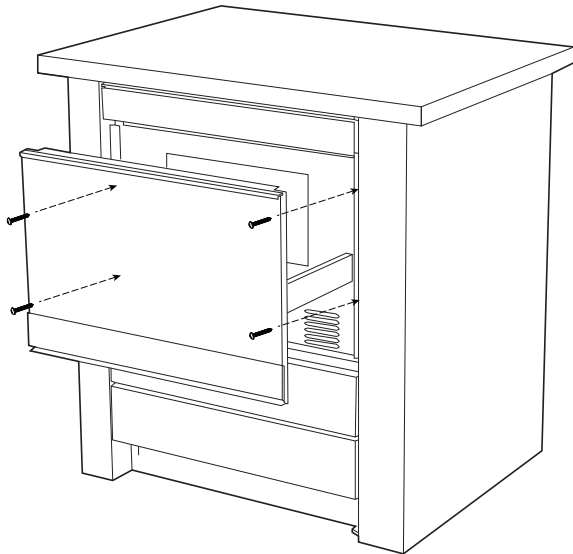

FIGURE 9A
8. Open the oven door and pre-drill each hole using a $\frac{1}{16}$ " (1.6 mm) drill bit. Fasten the unit to the mounting cleats using the 4 mounting screws provided with your oven. See Figure 9A or 9B.